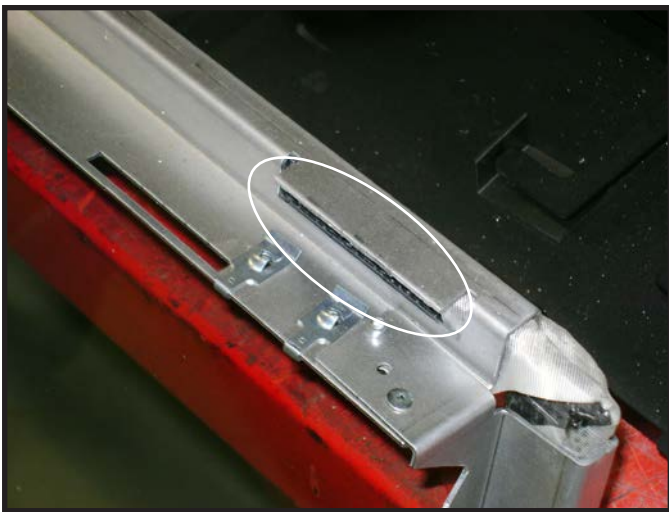

Figure 11.1 Glass Top Tab Detail.
1. Identify the top and bottom of the glass assembly. The top of the glass frame has three engagement grooves. The engagement groove is highlighted in Figure 11.1.
2. Install the two accent lights by either removing the two screws that hold the light housing to the firebox bottom as shown in Figure 11.13 or, for easy access, remove the two screws from the light housing cover. See Figure 11.1 Install bulb by inserting the 2 pins on the bulb base into the 2 holes in the socket. See Figure 11.12 or Figure 11.13.